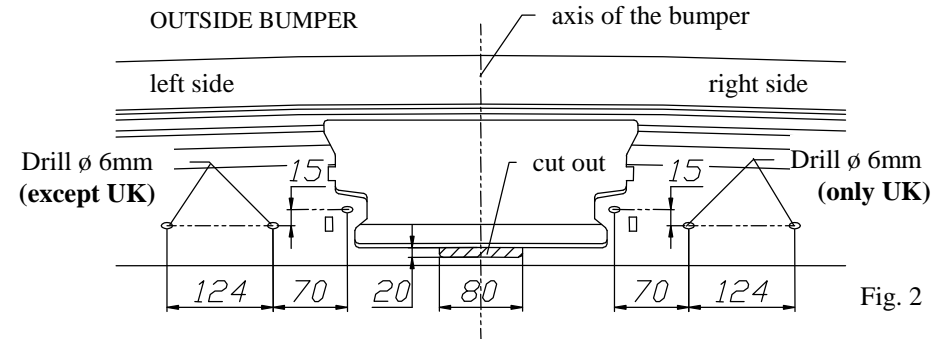

Fig. 2
3. In a bumper drill holes  $\varnothing 6\text{mm}$  for fog light mounting and saw its fragments according to figure 2.